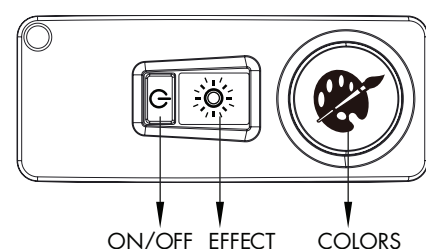

Fig. 2
3. The remote has three buttons (Fig. 2).